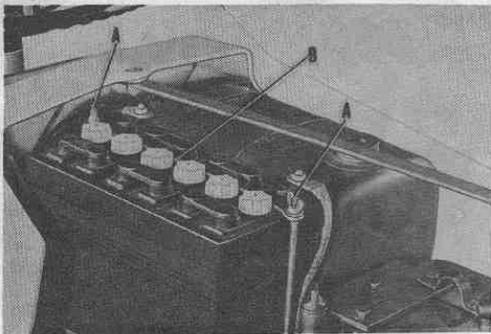

FIG. 3
3. Refer to Fig. 3. Assemble other battery bolt (A) and clamp (B) as shown, with washer and wing nut and tighten wing nut securely.